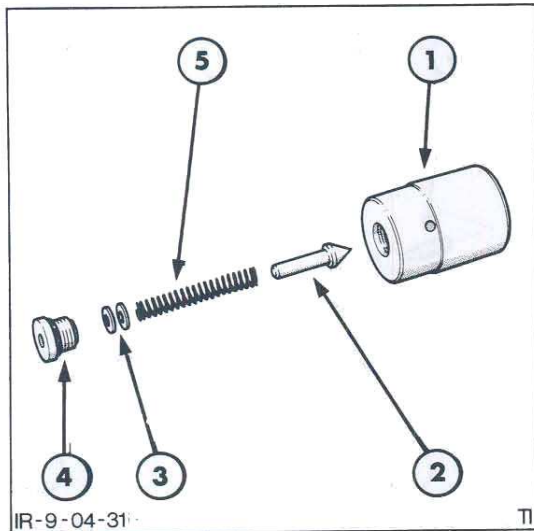

Figure 37
4. Install the backpressure valve poppet, spring, shims (where fitted), and the plug and 'O' ring into the relief valve body, Figure 37. Tighten the plug to the specified torque, see "Specifications" – Chapter 11.